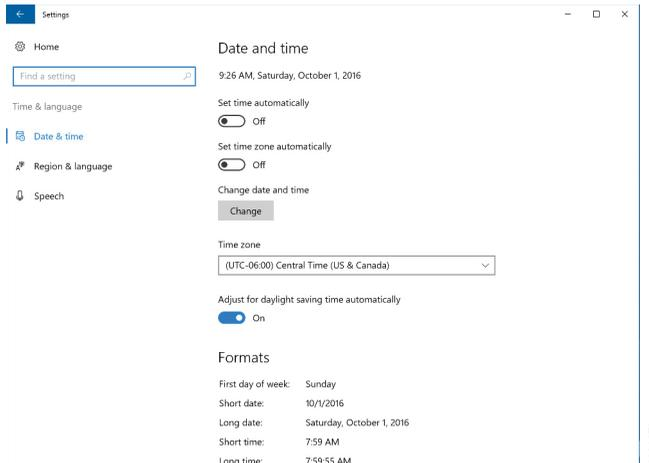

Figure 125. 'Time & language' screen. Settings for Date and time can be modified from this screen.
- c. Touch the **Time & language** button on the 'Windows Settings' screen to open the 'Time & language' screen (Figure 125).